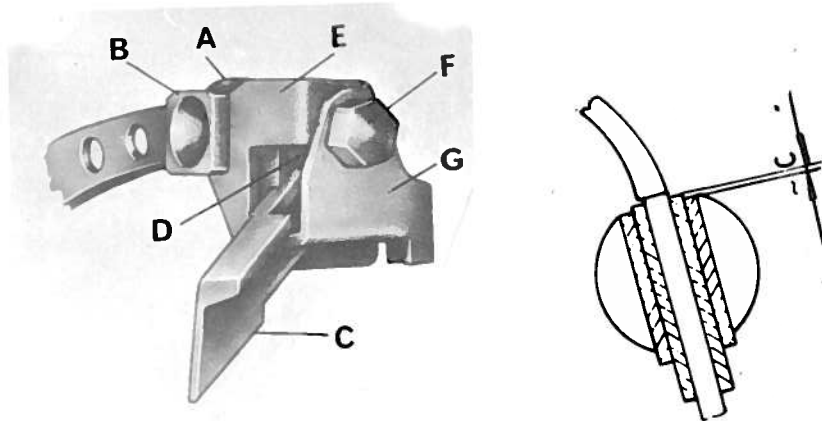

fig.17
11. Fitting upper knife (fig. 17).
2. Slacken off screw F (fig. 17).
3. Move upper knife support A (fig. 17) to right or left till desired seam width is obtained.
4. Lock screw F (fig. 17).